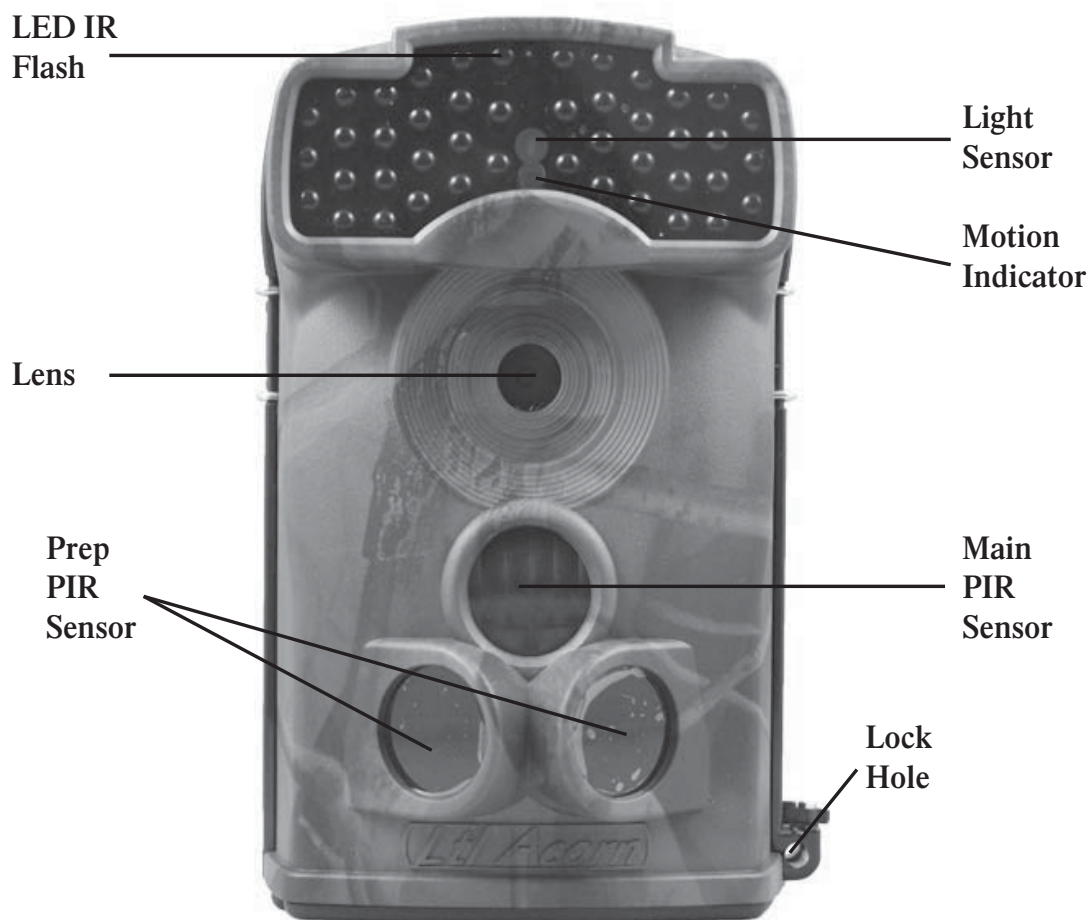

Figure 1.1: Front View of Ltl-5310M
- Figure 1.1 shows the front view of the camera (Part # Ltl-5310M)